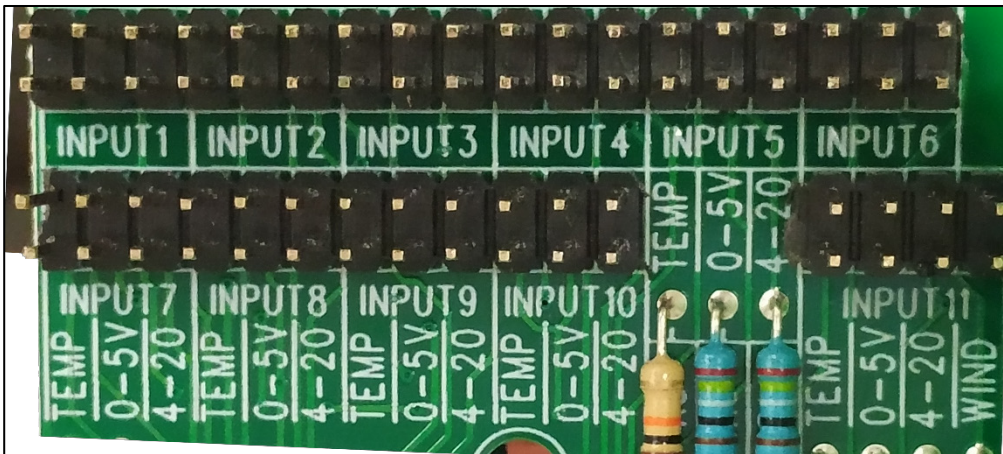

Figure 2: Jumpers - Expanded
- Refer to Figure 2 to see an expanded picture of the jumpers.